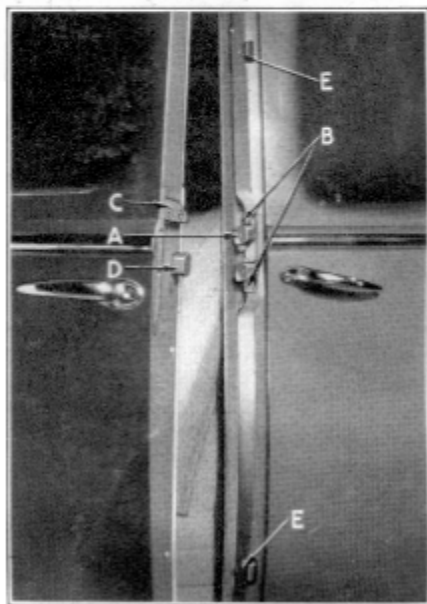

Figure 58
The door lock striker assembly (A), Figure 58, is adjustable to center the door properly at the top and bottom and permit easy closing.